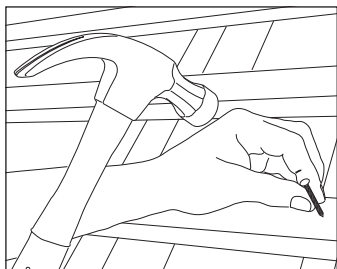

Fig. 5 – Nailing verge units
- 6 Secure the verge extrusion by driving the annular ring shank nails provided through each tiling batten (40mm from the end) into the extrusion (Fig. 5).